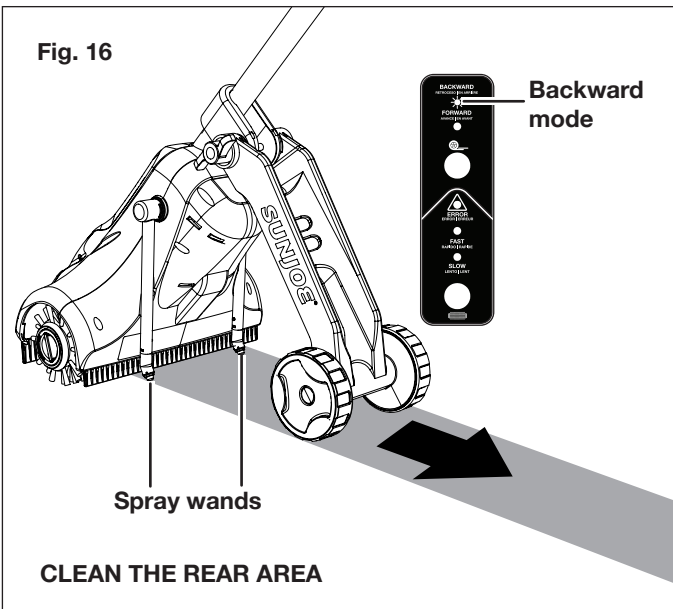
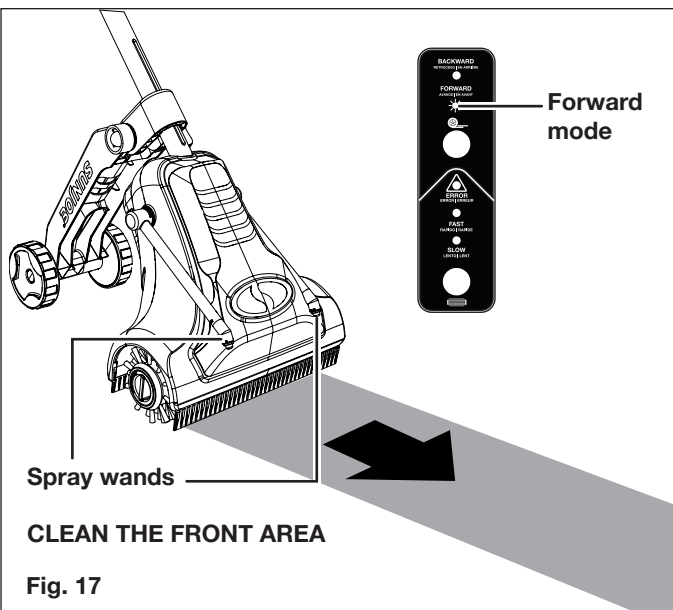

Fig. 16
Fig. 17
5. Use the control panel to set the appliance in desired direction and brush speed. If the rear area needs to be cleaned, set the appliance in backward mode (Fig. 16). If the front area need to be cleaned, set the appliance in forward mode (Fig. 17) Make sure the spray wands are placed in the corresponding position.